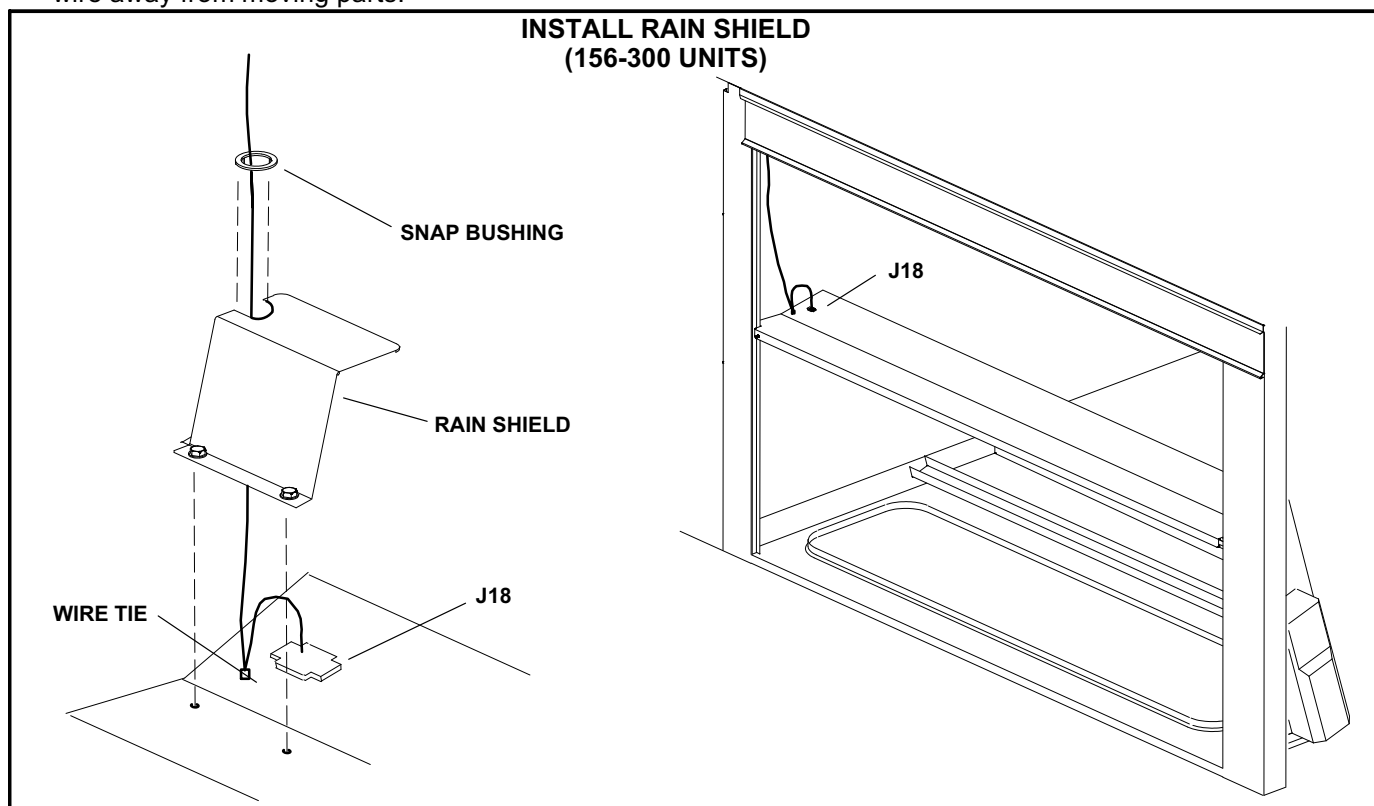

FIGURE 12
- 2- Install the strain relief, bushing, and rain shield as shown in figure 12.